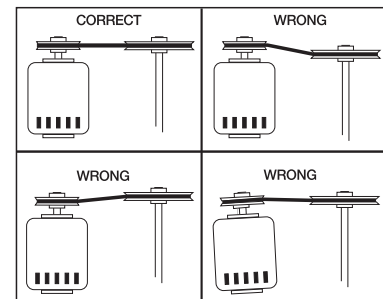

Figure 4
7. If adjustments are made, it is very important to check the pulleys for proper alignment. Misaligned pulleys lead to excessive belt wear vibration, noise and power loss, see Figure 4.